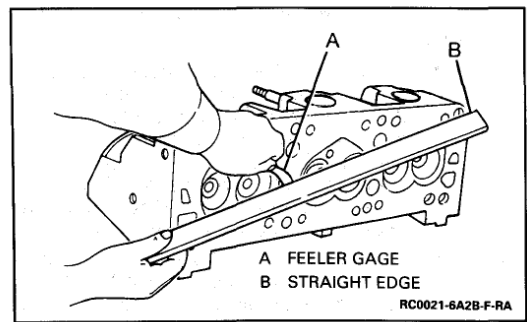

Figure 52 Checking Cylinder Head Flatness
4. Cylinder head deck, intake and exhaust manifold mating surfaces for flatness as shown in Figure 52. These surfaces may be re-conditioned by milling. If the surfaces are "out of flat" by more than 0.1mm (0.004 inch), the surface should be milled. If more than 0.25 mm (0.010 inch) of metal must be removed from the head, it should be replaced.